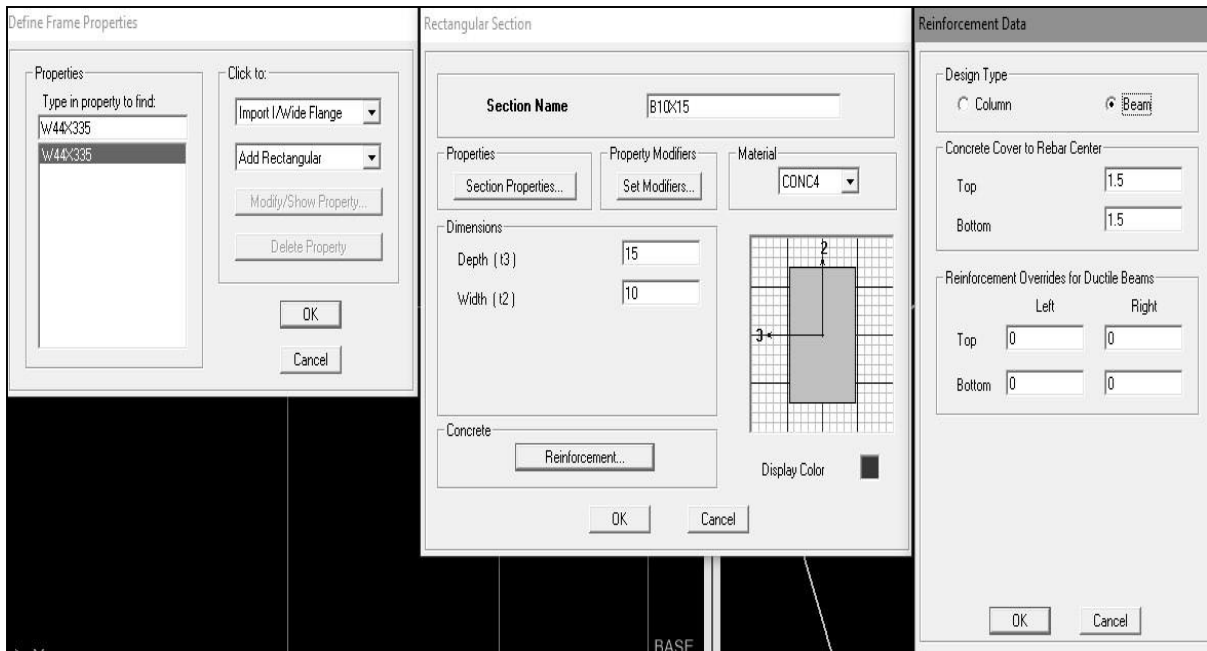

Fig : 2.4
- 2.2. Define → Frame Sections → Add Rectangular → Section Name = B10X15 → Material = CONC4 → Depth=15, Width = 10 → Reinforcement → Beam → OK → OK → OK. (Fig: 2.4)